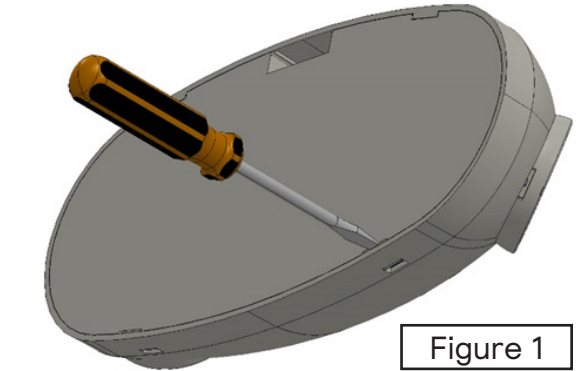

Figure 1
1. Insert a flat blade screwdriver into the two slots between backplate and housing and pry to remove backplate from housing. See Figure 1.